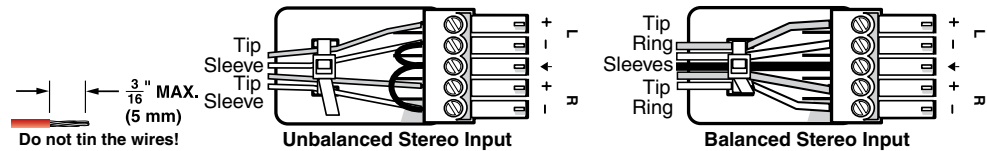
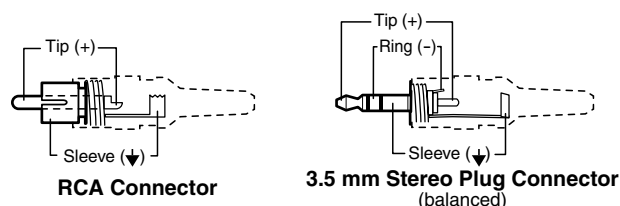
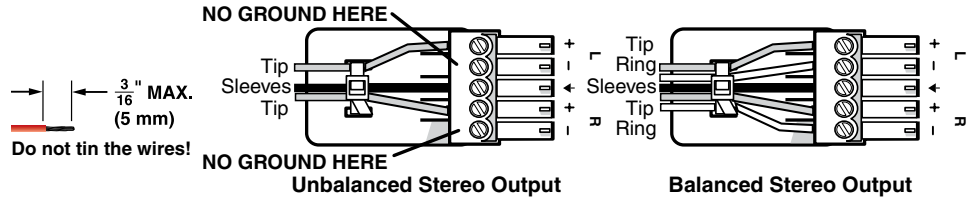

Figure 20. Captive Screw Connector Wiring for Audio Inputs
Figure 21. Typical Audio Connectors
Figure 22. Captive Screw Connector Wiring for Audio Output
D Connections for balanced and unbalanced audio inputs — Each input has a 3.5 mm, 5-pole captive screw connector for balanced or unbalanced stereo audio input. Connectors are included with each switcher, but you must supply the audio cable. Figure 20 shows how to wire a connector for the appropriate input type. Use the supplied tie-wrap to strap the audio cable to the extended tail of the connector.
- See figure 21 to identify the tip, ring, and sleeve when you are making connections for the switcher from existing audio cables. A mono audio connector consists of the tip and sleeve. A stereo audio connector consists of the tip, ring and sleeve. The ring, tip, and sleeve wires are also shown on the captive screw audio connector diagrams, figure 20 and figure 22.
- E Connections for balanced and unbalanced audio outputs** — These 3.5 mm, 5-pole captive screw connectors output the selected unamplified, line level audio. Connect audio devices, such as an audio amplifier or powered speakers. See figure 22 to properly wire an output connector. Use the supplied tie-wrap to strap the audio cable to the extended tail of the connector.